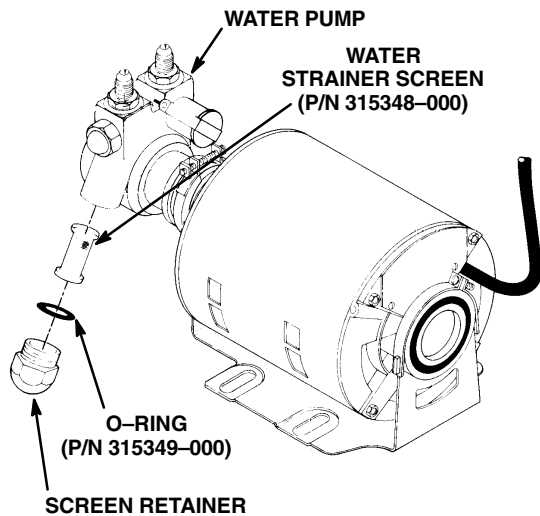

FIGURE 12. WATER STRAINER SCREEN
3. Loosen screen retainer, then pull screen retainer and strainer screen from water pump. (see Figure 12).